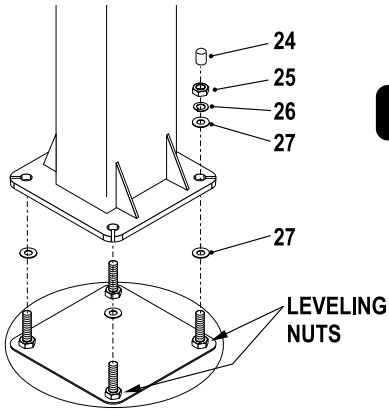

Figure 5
- Place a level on top of upper Board Arm (#9) and on the front of Extension Arm (#3) to check to see if pole is level. See figure 6. Make any adjustments necessary using leveling nuts under pole. See figure 5.